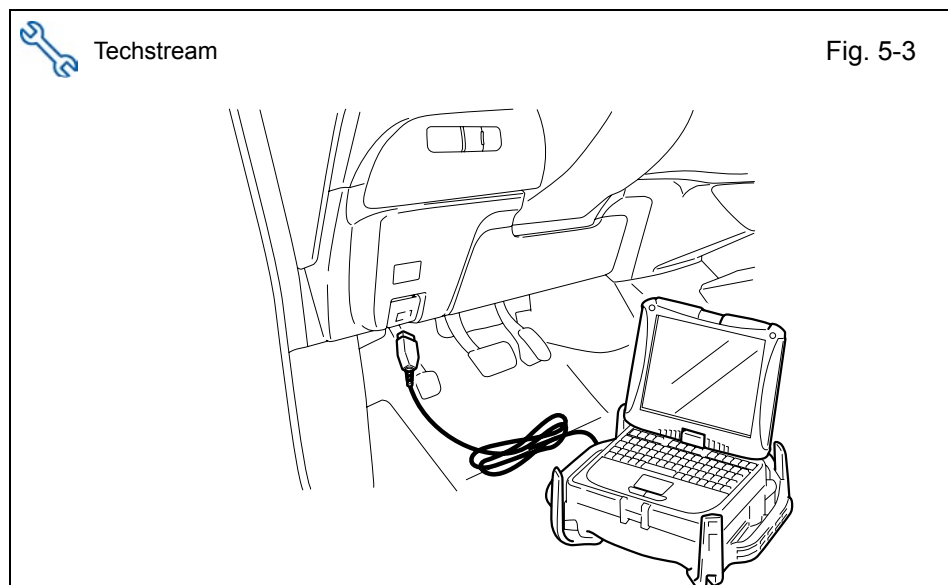

Fig. 5-3
- b. Connect the Techstream Notebook to the Vehicle's Diagnostic Port. (Fig. 5-3)
- c. With the Smart Key in your possession, press the Power Button twice to select the Ignition "ON" position. (Fig. 5-3)